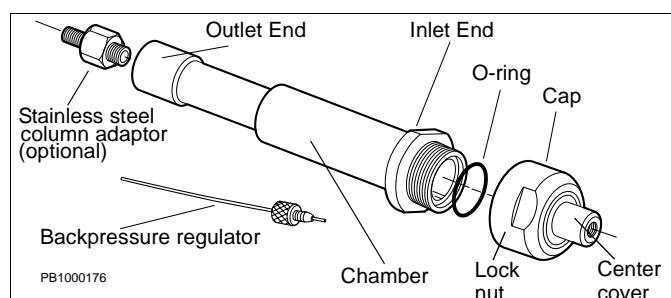

Figure 1 Packing Device Parts
A backpressure regulator comes with the packing device. Figure 1 shows the parts of the packing device and the backpressure regulator.
- A white Teflon® washer recessed in the outlet end of the packing chamber creates a proper seal when a column is screwed in place. (This washer is not visible in Figure 1.)